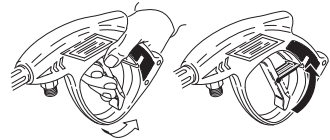

Figure 9
1. Disengage the safety catch as shown in Figure 9. Depress trigger to allow air to escape and to discharge residual pressure in the pipes.